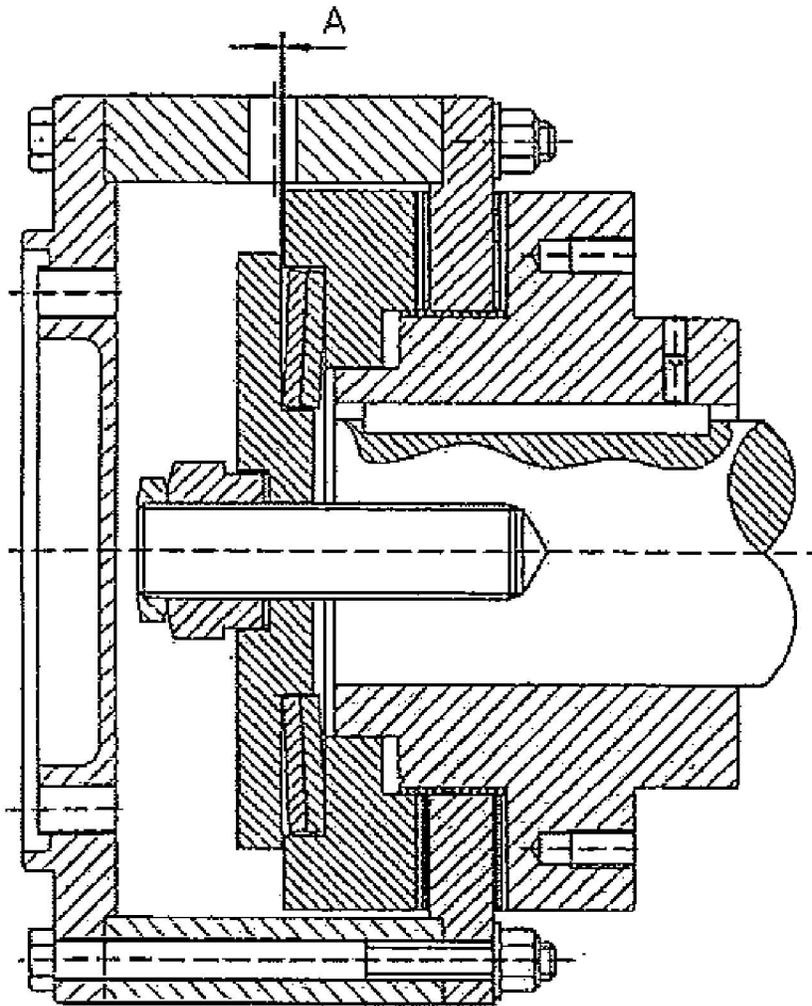

Figure 4-51. V27 - 226 kW
**Refer to** Figure 4-51 and 4-52